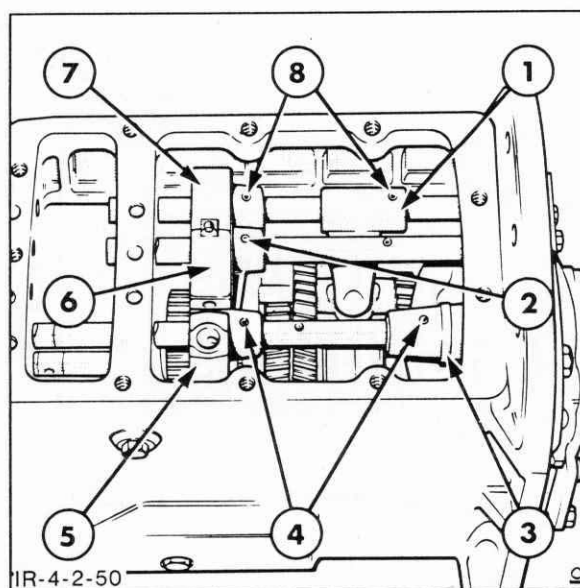

Figure 4-168
8. Insert the H/L gearshift rail into the transmission case from the rear end of the transmission. Slide the rail through the H/L gearshift fork then install the H/L gearshift gate onto the rail. Continue sliding the rail until it is in approximately the neutral position, Figure 4-168.